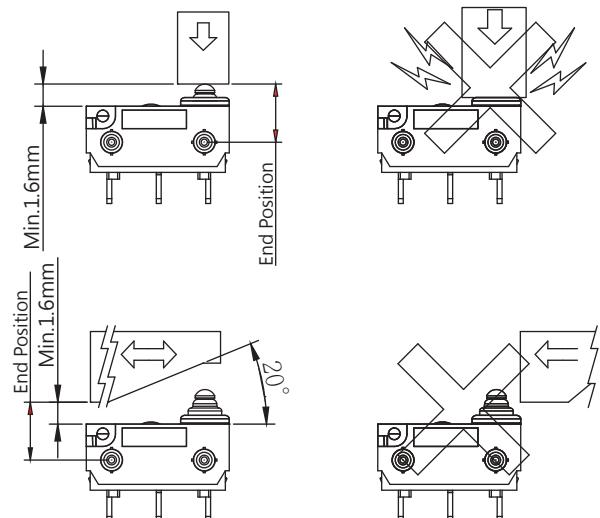

Figure-2
3. Do not exceed the end position (EP) and over travel (OT).This could cause operation failure.(Figure-2)
4. Do not exceed the end position (EP) and over travel (OT). This could cause operation failure.(Figure-2)